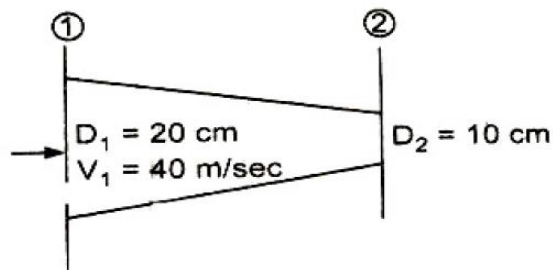

Figure 1
- a. A pipe through which the water is flowing, is having diameters 20 cm and 10 cm at the cross sections 1 and 2 respectively. The velocity of water at section 1 is given 40 m/s as shown in Figure 1. Find,